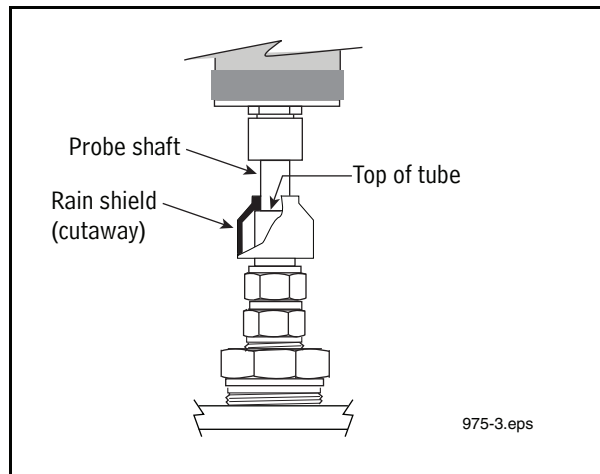

Figure 3. Rain shield installed position
4. Slide the rubber rain shield onto the probe shaft (narrow end up) and push it all the way up to the probe canister. Gently slide the probe down into the tube until it rests on the bottom of the tube. Slide the rain shield down the shaft until it rests against the top end of the tube. The lower (wide) end of the shield may be a little over the top of the gland nut. Note: the rain shield is intended to keep water out from between the probe's shaft and the inside of the tube so you don't want to force the shield down below the top end of the tube (see Figure 3).